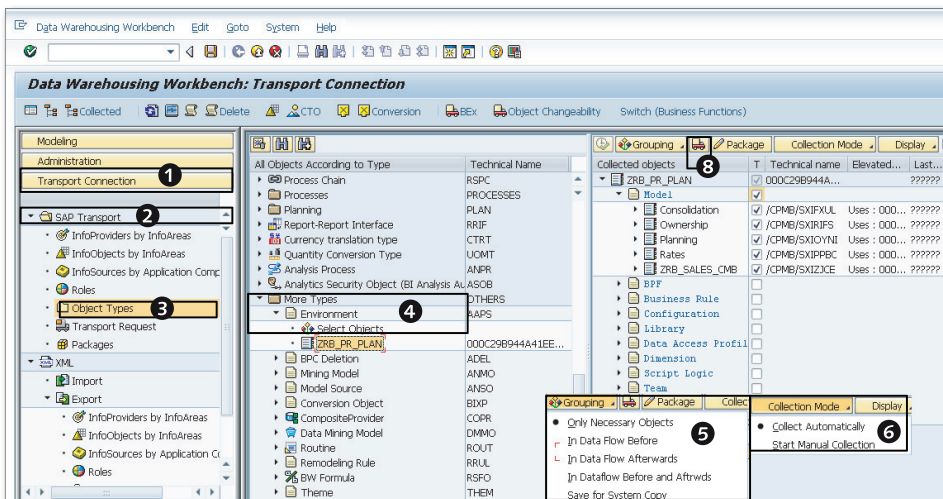

Figure 8.1 Transporting Objects in SAP BPC for NetWeaver—Part A
1. Log in to the SAP NetWeaver BW system, and execute Transaction RSA1. Click on the **TRANSPORT CONNECTION** option (Figure 8.1, ❶). Under the **SAP TRANSPORT** folder, click on **OBJECT TYPES** (Figure 8.1, ❷ and ❸).
2. The option to select objects and create a transport for SAP BPC is available under the MORE TYPES folder in the center pane. The following features apply when transporting SAP BPC objects (Figure 8.1, 4):
- ▶ The objects that are collected to be displayed in the transport interface are based on the setting in GROUPING. The grouping is based on the flow of information. You can choose from ONLY NECESSARY OBJECTS, IN DATA FLOW BEFORE, IN DATA FLOW AFTERWARDS, IN DATA FLOW BEFORE AND AFTRWDS, and SAVE FROM SYSTEM COPY. We recommend that you select the ONLY NECESSARY OBJECTS option before starting the process to transport SAP BPC objects (Figure 8.1, 5).
- ▶ Under COLLECTION MODE, set the option to COLLECT AUTOMATICALLY (Figure 8.1, 6). When using this option, the system will automatically identify and check the objects that are to be transported. The objects displayed can then be overridden manually by selecting or deselecting objects as necessary.
3. When you are ready to create a transport, click on the transport icon (refer to Figure 8.1, 9). All of the objects with a checkmark in the TRANSPORT column are added to the transport. You're prompted to create the transport request in the following screen.